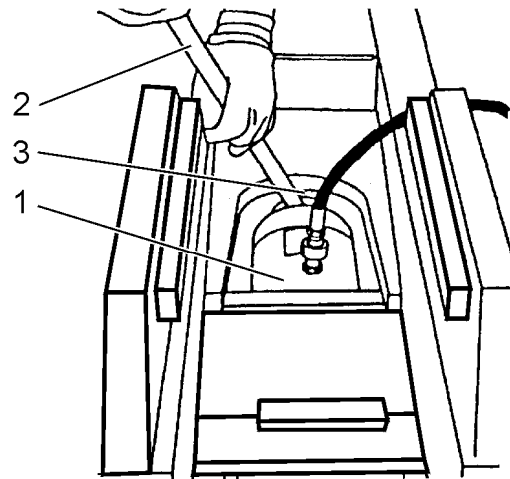

Fig. 14.44. Ram Installation
11. Install ram (1, Fig. 14.44), with piston rod completely retracted, onto support brace. Using a pry bar (2) take up slack between ram and ram rod (3) as shown in Fig. 14.44.